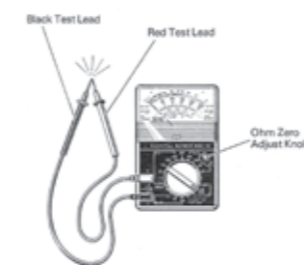

Fig. 3
- (1) Insert red voltage test lead into plus (+) terminal and black voltage test lead into minus (-) terminal.
- (2) Set range switch to TEMP position.
- (3) Short the tips of test leads and turn ohm zero adjust knob so that pointer is positioned on CAL mark of temperature scale (Fig. 3). After completing this procedure, remove test leads.